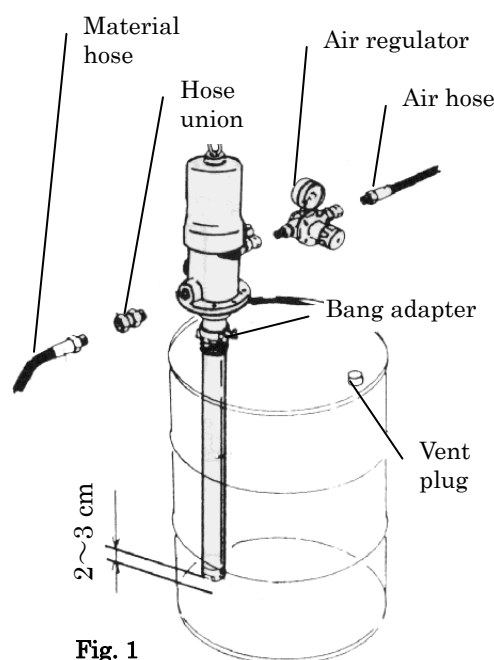

Fig. 1
- 2) Insert the pump in the bang adapter. When the lower end (foot valve) of the pump touches the bottom of the drum can, lift the pump 2 or 3 cm to make a clearance between the foot valve of the pump and the bottom of the drum can, and fix the pump by tightening the thumb screw of the bang adapter. (Fig.1)